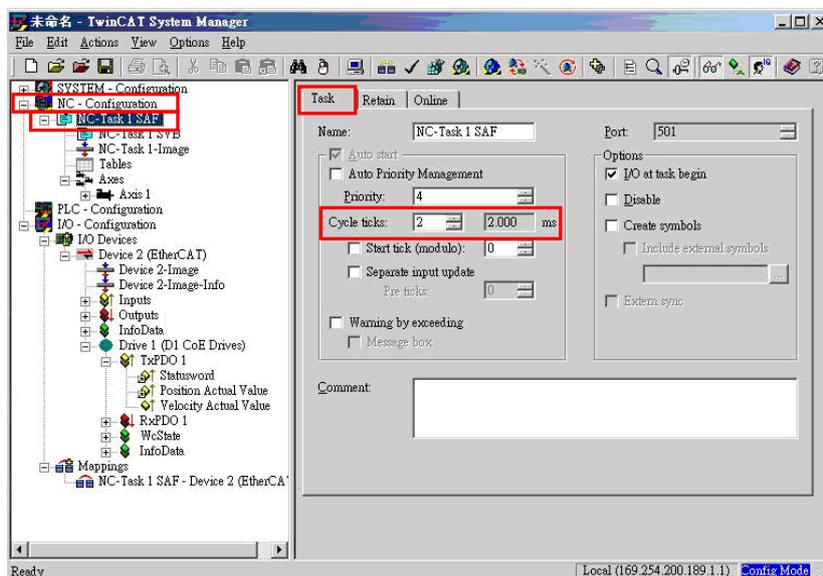

Fig. 5-14
(9) Select “NC-Task 1 SAF” in “NC-Configuration” at the left side of main window. Go to “Task” tab at the right-side window and set DC cycle time for “Cycle ticks”. Fig. 5-14 gives an example of setting cycle time to be 2 ms.